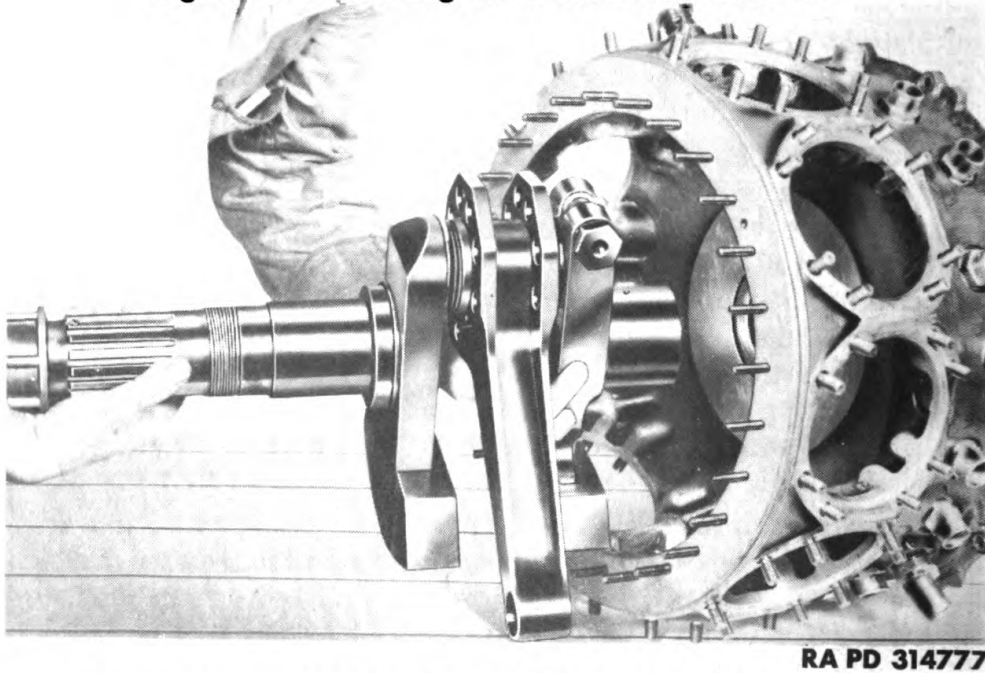
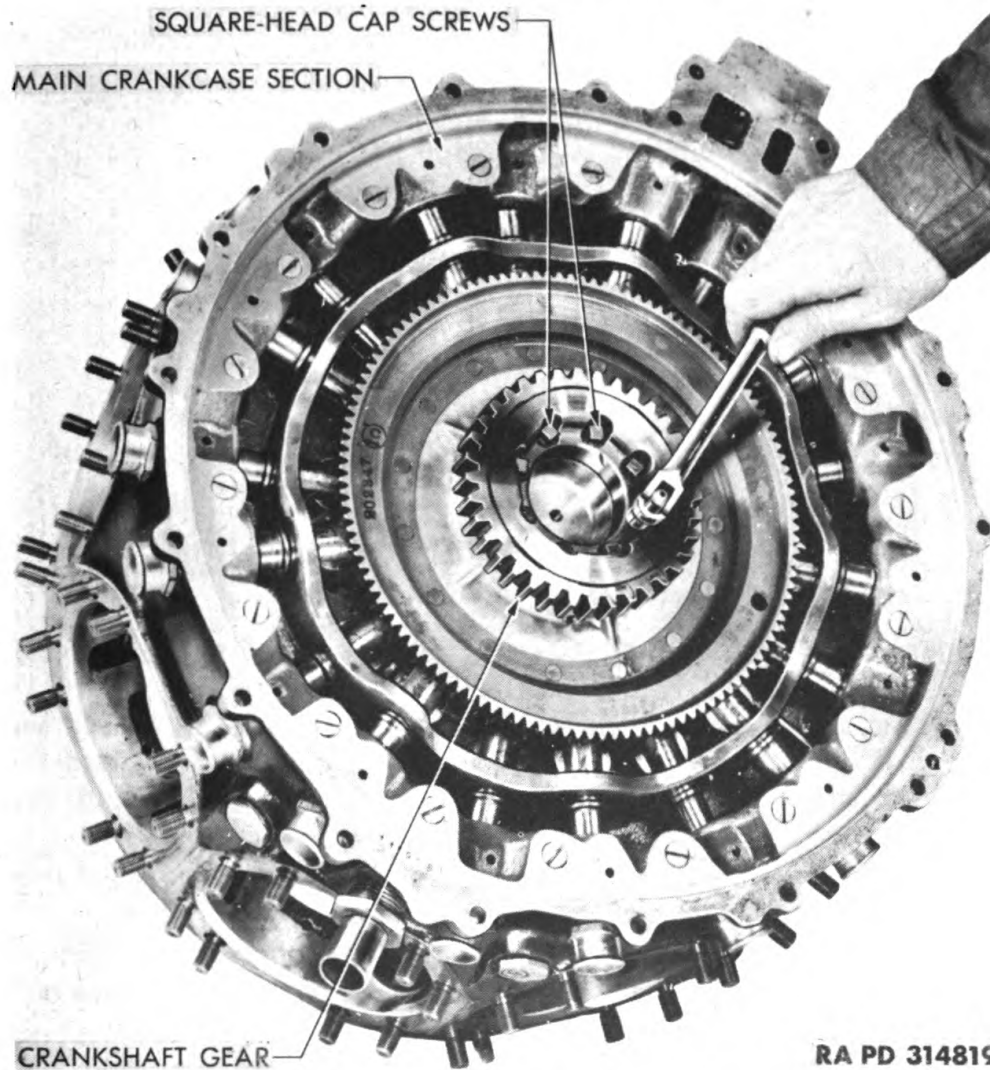

Figure 209 – Positioning Crankshaft for Installation
Figure 210 – Tightening Crankshaft Gear Retaining Screws
a. Install Crankshaft and Master Rod Assembly. Place main crankcase section on bench with opening for No. 9 cylinder at bottom. Lubricate crankshaft rear journal. Lift assembly, and insert it in main crankcase section with counterweights opposite the No. 8 cylinder opening and the master rod pointing into the No. 1 cylinder opening (fig. 209). Insert crankshaft assembly into crankcase section very carefully, twisting it slightly so that the counterweights clear the opening. Make sure that the rear main bearing journal enters the bearing freely without forcing. If assembly is installed carelessly, the rear main bearing may be damaged. Place crankshaft gear on end of crankshaft so that holes in gear and crankshaft line up. Install eight square-headed cap screws. Tighten screws securely (fig. 210).